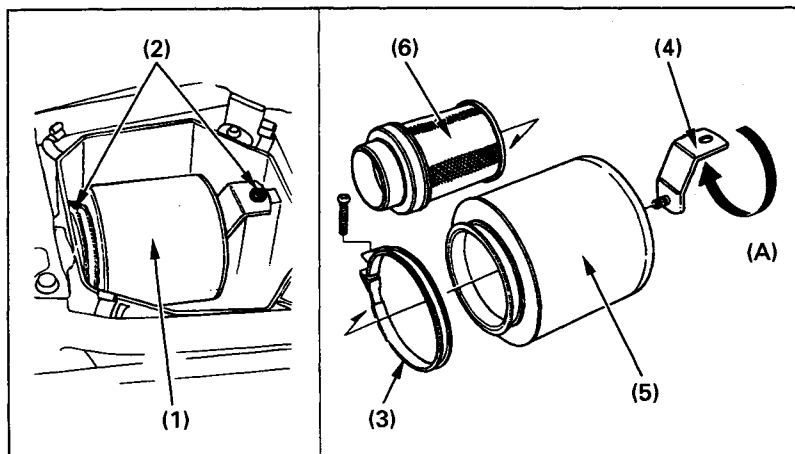

Fig. 4-6 (1) Air cleaner assembly
3. Remove the screws (2) (Fig. 4-6) and remove the air cleaner assembly (1) from the case.
4. Unscrew the clamp (3) and remove the mounting bracket (4).
5. Remove the air cleaner (5) from the air cleaner body (6).